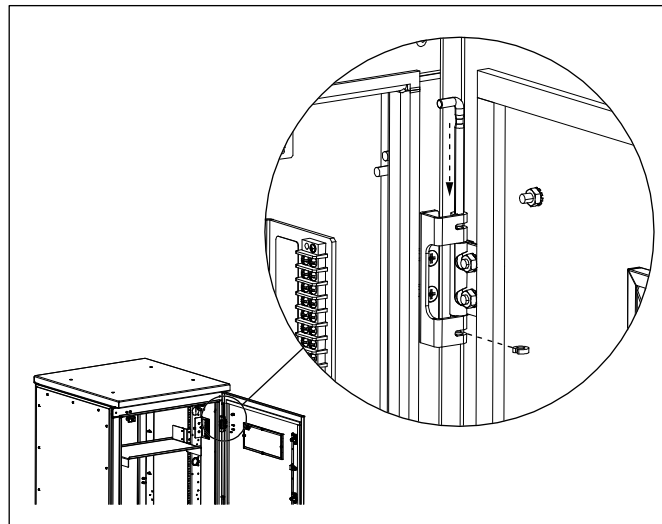

Figure 12 Install Doors
6. Install the front and rear doors (Figure 12).